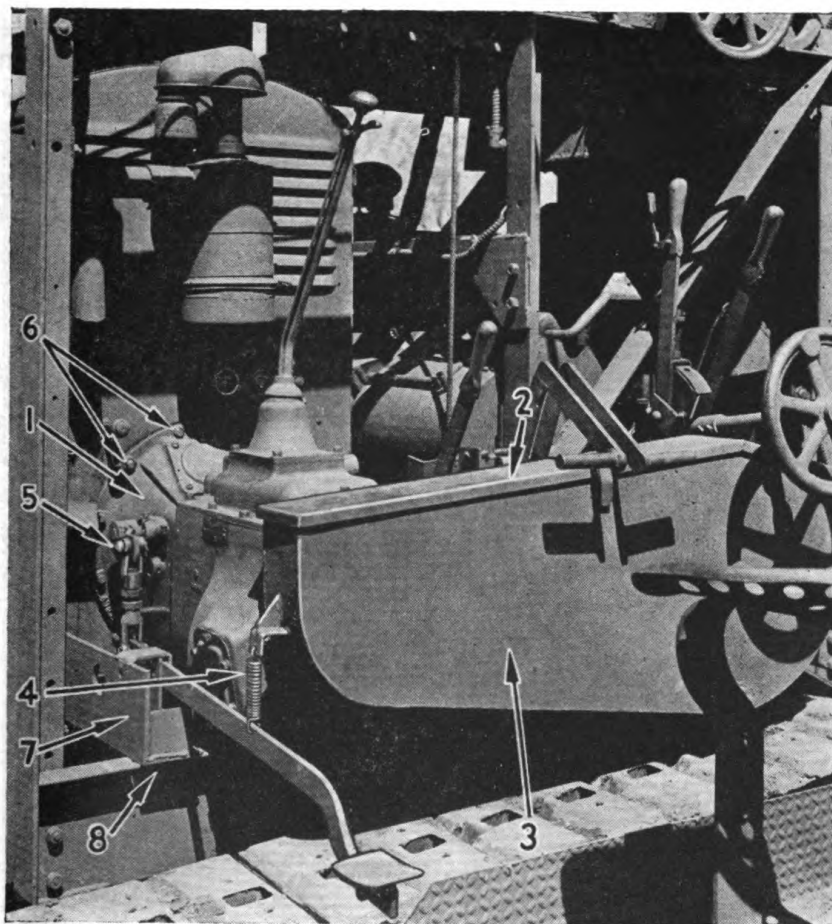

Figure 115. Operator's view of power unit.
This unit is mounted on a bell housing (1), Figure 115 which bolts to the Buda engine. For removal, with bell housing, the following steps are necessary:
- (e) Take out the cottered clevis pin (5), Figure 115 so that the transmission is free of the master clutch lever linkage.
- (f) The transmission may now be taken off the engine by taking out all cap screws (6) around the bell housing.
- (b) The engine is secured to two structural angles (7), Figure 115 which bolt to channel frame at (8). Remove bolts at (8) and stop plate on top of channel frame at radiator end.
- (d) Crib up alongside the loader with timbers, in line with the engine at the radiator end, to receive the engine as it comes off the loader frame. Pipe rollers may be used under the structural angles (7) to facilitate moving the engine. In order to secure a good base for cribbing, the crawler tracks may be uncoupled at the point under the radiator, and the top of the crawler frame may be used for blocking support at this point.
Removal of the chain guard and drive chain is covered by instructions and Figures 115 and 116, under Fuller Transmission, steps (a) to (d), inclusive.